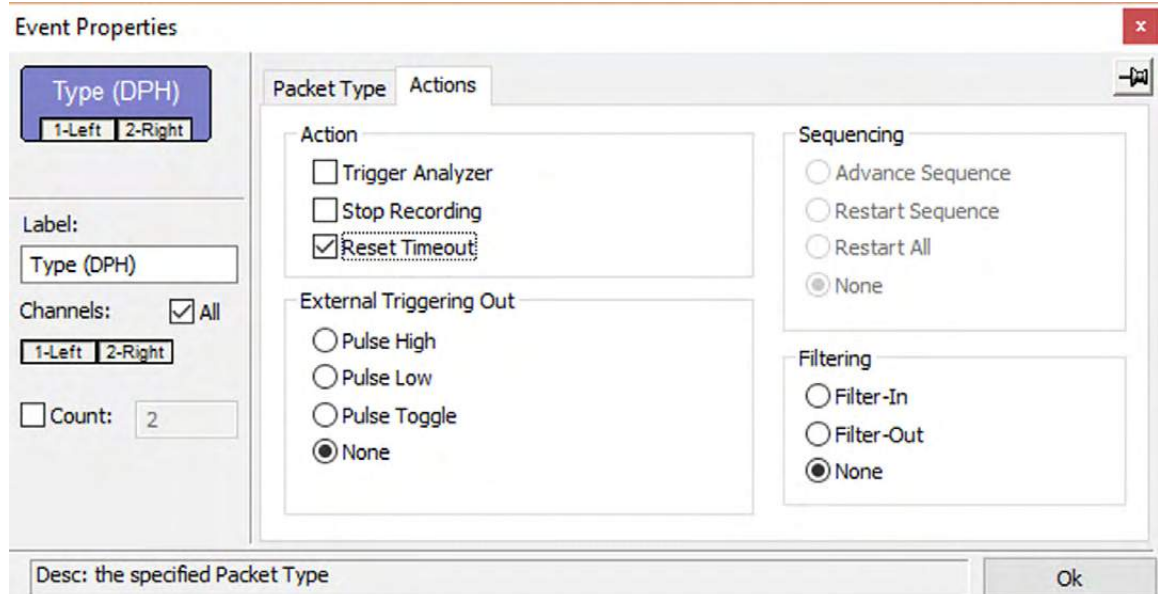

Figure 5.38: Action Assigned.
**Note:** You can also set actions within the Properties dialog for each event. Double-click the Event button to open the Properties dialog, then select the Actions tab and set your actions. See Figure 5.38.